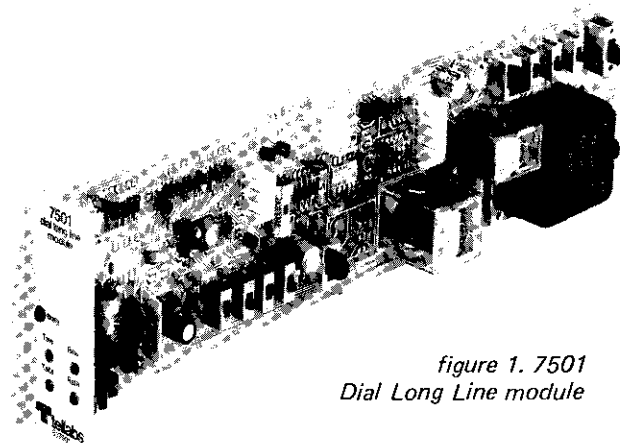

figure 1. 7501
1.01 The 7501 Dial Long Line module (figure 1) regenerates signaling and supervision to increase the range of a loop-start or ground-start CO or PBX line circuit in applications where a station served by a metallic facility is located beyond the normal range of the switching equipment. An integral repeat coil extends a separate source of locally derived loop current toward the station. On calls to the station, the 7501 bypasses ringing generated at the switching equipment or repeats ringing (starts and applies local ringing generator), as selected by switch option. When the station answers, the 7501 trips ringing. On calls from the station, the 7501 detects and regenerates off-hook states and repeats dial pulsing.